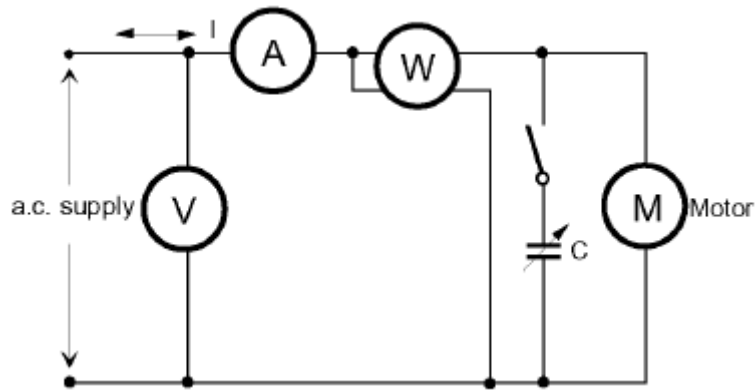

Figure 1
1. Connect up the circuit as shown in Figure 1.